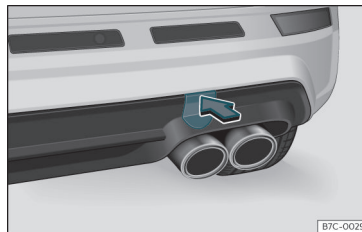

Fig. 41 On the right side of the rear bumper: remove the cover.
The housing of the screw towing eye is on the right side of the rear bumper behind a lid >>> **Fig. 41**.
- Press the upper side of the lid >>> **Fig. 41** to unclip it.